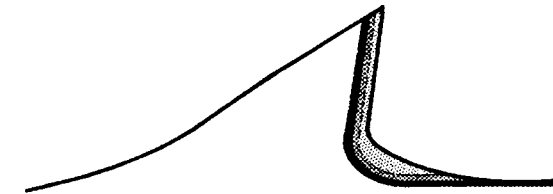
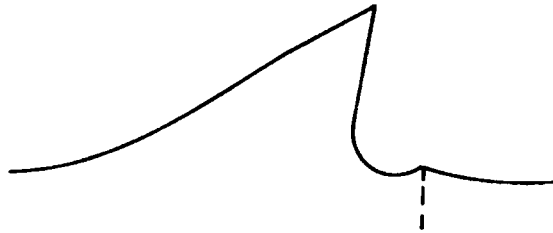

FIG 2-18
FIG 2-19
7. As you sharpen a blade and the face of the teeth recede, the tooth height (tip down to gullet) will get shorter. For this reason, it is recommended that from the second sharpening on, you start grinding into the gullet. A good rule of thumb is to grind as much out of the gullet as you grind off the face of the tooth (See Figure 2-18). When grinding into the gullet, be sure to maintain a smooth radius into the gullet. An inconsistent gullet (See Figure 2-19) can cause premature blade breakage. Subsequent sharpenings will require a large amount of the gullet to be ground, until you get to approximately the fourth or fifth sharpening. At that time, it will be necessary to gum across the entire gullet (explained later). A tooth height of not less than 3/16" is recommended.